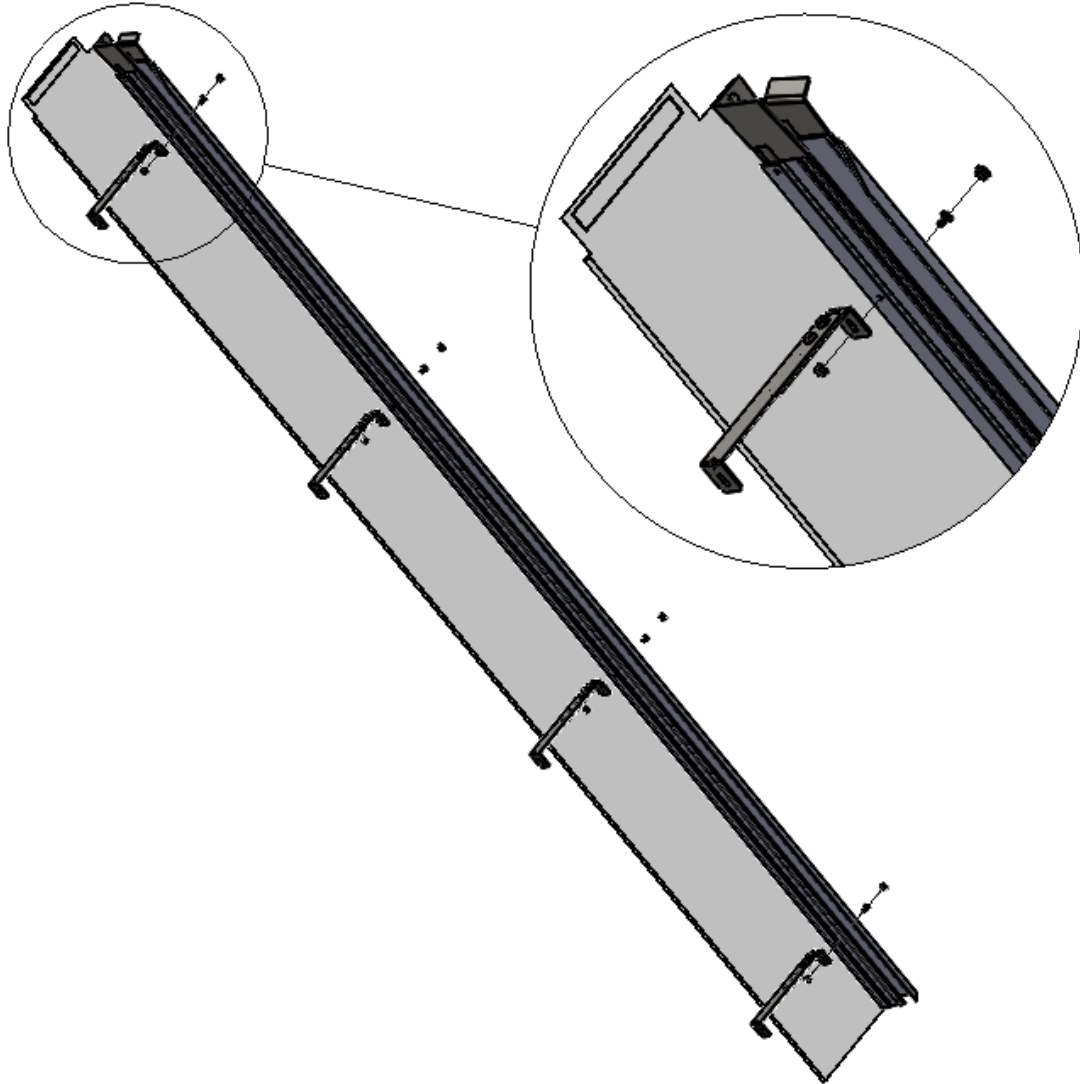

Figure 12 TRACK PROJECTION BRACKET ARRANGEMENT
2. Locate the Track Projection Mount Brackets, four (4) per Track, and four the ¼-20 Screws and Flanged Nuts.
4. Slip the Projection Bracket with the hole facing the Track, and then thread the nut, onto the screw. The slotted end of the Projection Bracket will fasten to the mounting surface in a later step. These brackets should be mounted so that they are horizontally oriented, i.e. so that they are parallel to the floor (NOT vertically oriented /up and down). (Figure 12 TRACK PROJECTION BRACKET ARRANGEMENT)